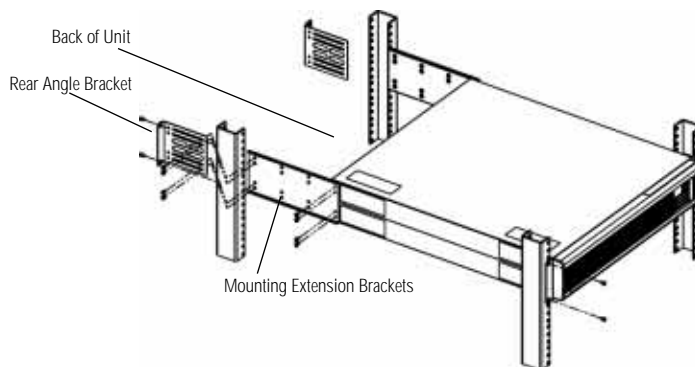
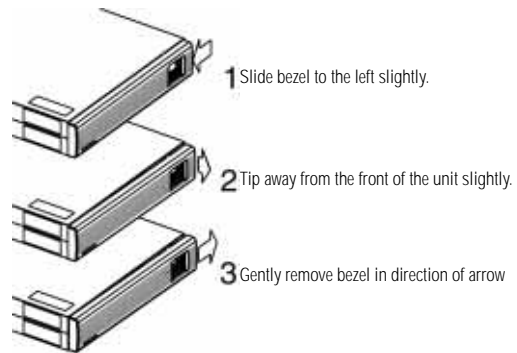

Fig. 9: Attaching the Back Angled Brackets
Fig. 10: Removing Front Bezel
- Place the two large angled mounting brackets at the rear rack support rails with the long sides facing inward (fig. 9). Secure with four (4) rack fasteners (not provided). The ON2000 Universal Mount uses eight (8) fasteners (not provided).
6. Mounting extension brackets are flat with a small lip along each long side. The lip should face away from the cabinet. Attach one to each side of the cabinet using four (4) of the #6-32 screws, provided, through the four (4) round clearance holes (fig. 9) and tighten securely.
For the ON2000, attach two mounting extension brackets to each side of the cabinet using eight (8) of the #6-32 screws, provided, through the eight (8) round clearance holes and tighten securely. See figure 10.
8. Secure the ears of the front brackets to the front side of the rack posts with four (4) rack fasteners (not provided). The ON2000 Universal Mount uses eight (8) fasteners (not provided).
9. Secure each rear angled mounting brackets to the cabinet or extension brackets with four (4) of the #6-32 screws provided, eight (8) for the ON2000 Universal Mount (fig 9). Tighten securely.
1. Slide the bezel to the left (bottom) slightly, tip away from front of the unit slightly and then gently pull away from the UPS in direction of arrow (see fig. 10, number 3) to remove.
3. Replace the front bezel by reversing all three steps in fig 10.